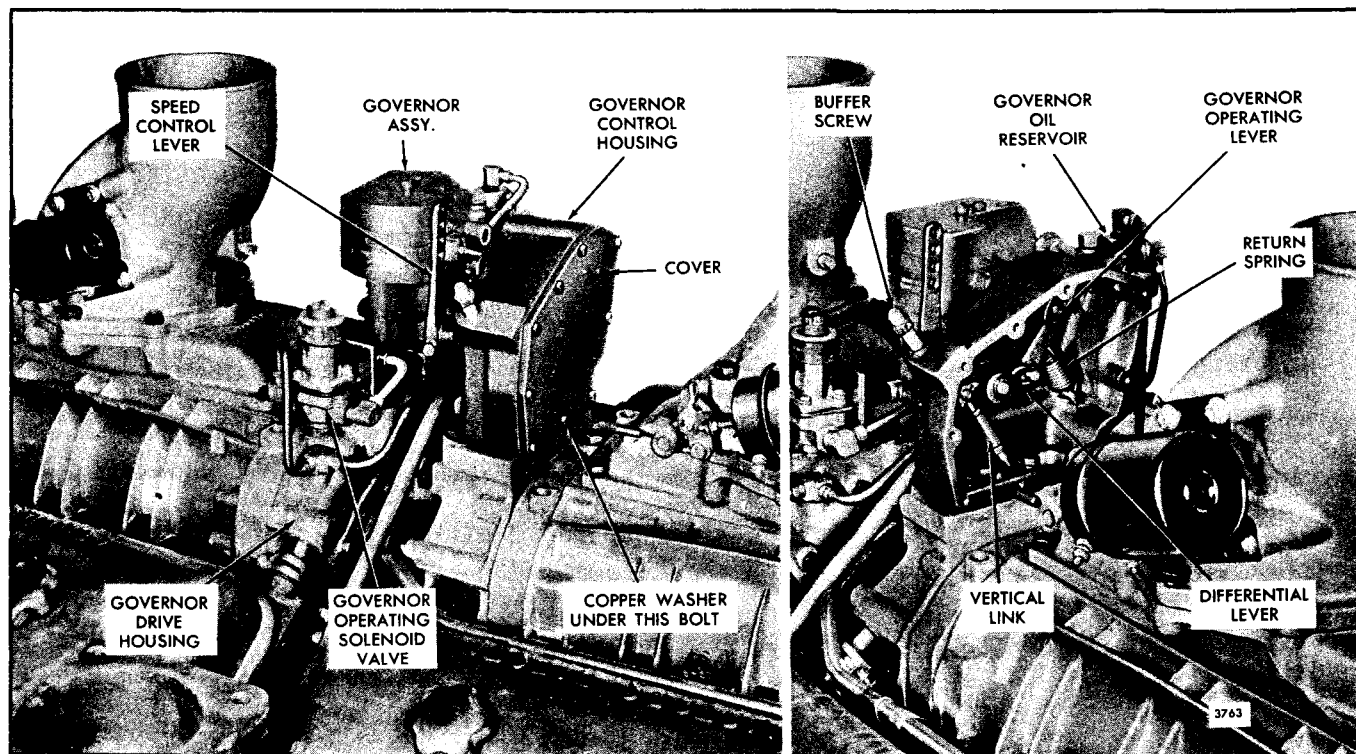
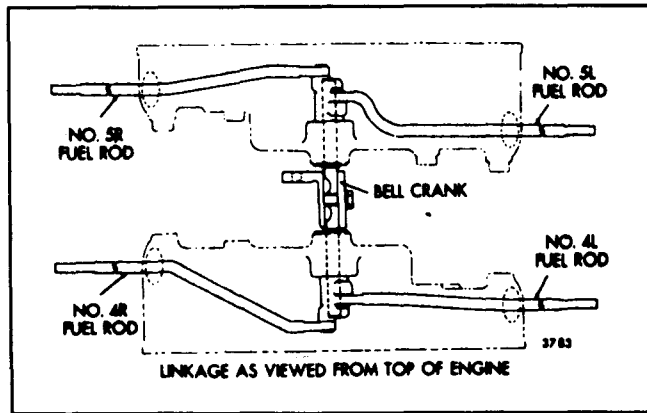

Fig. 1 - Governor Mounting and Linkage in the Control Housing
Fig. 2 - Governor-to-Injector Rack Control Linkage
The governor on the 16V engine is mounted on and driven from the front end of the rear blower (Fig. 1). The governor to injector rack control linkage is shown in Fig. 2.
3. Disconnect the upper end of the adjustable vertical link (Fig. 1) from the differential lever pin.